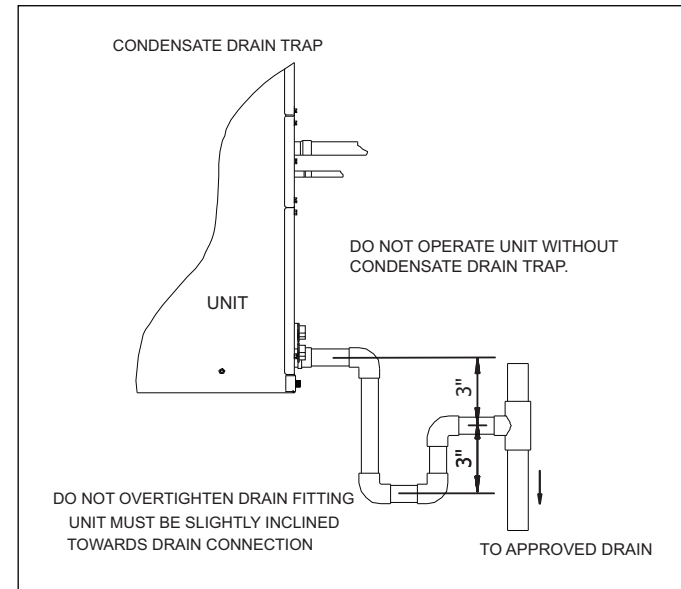

Figure 15
Refer to Figure 15 and the information below for required condensate drain trap installation.
- ▶ Make provisions for disconnecting and cleaning of the primary drain line should it become necessary. Install a 3 inch trap in the primary drain line as close to the unit as possible. Make sure that the top of the trap is below connection to the drain pan to allow complete drainage of pan (See Figure 15).